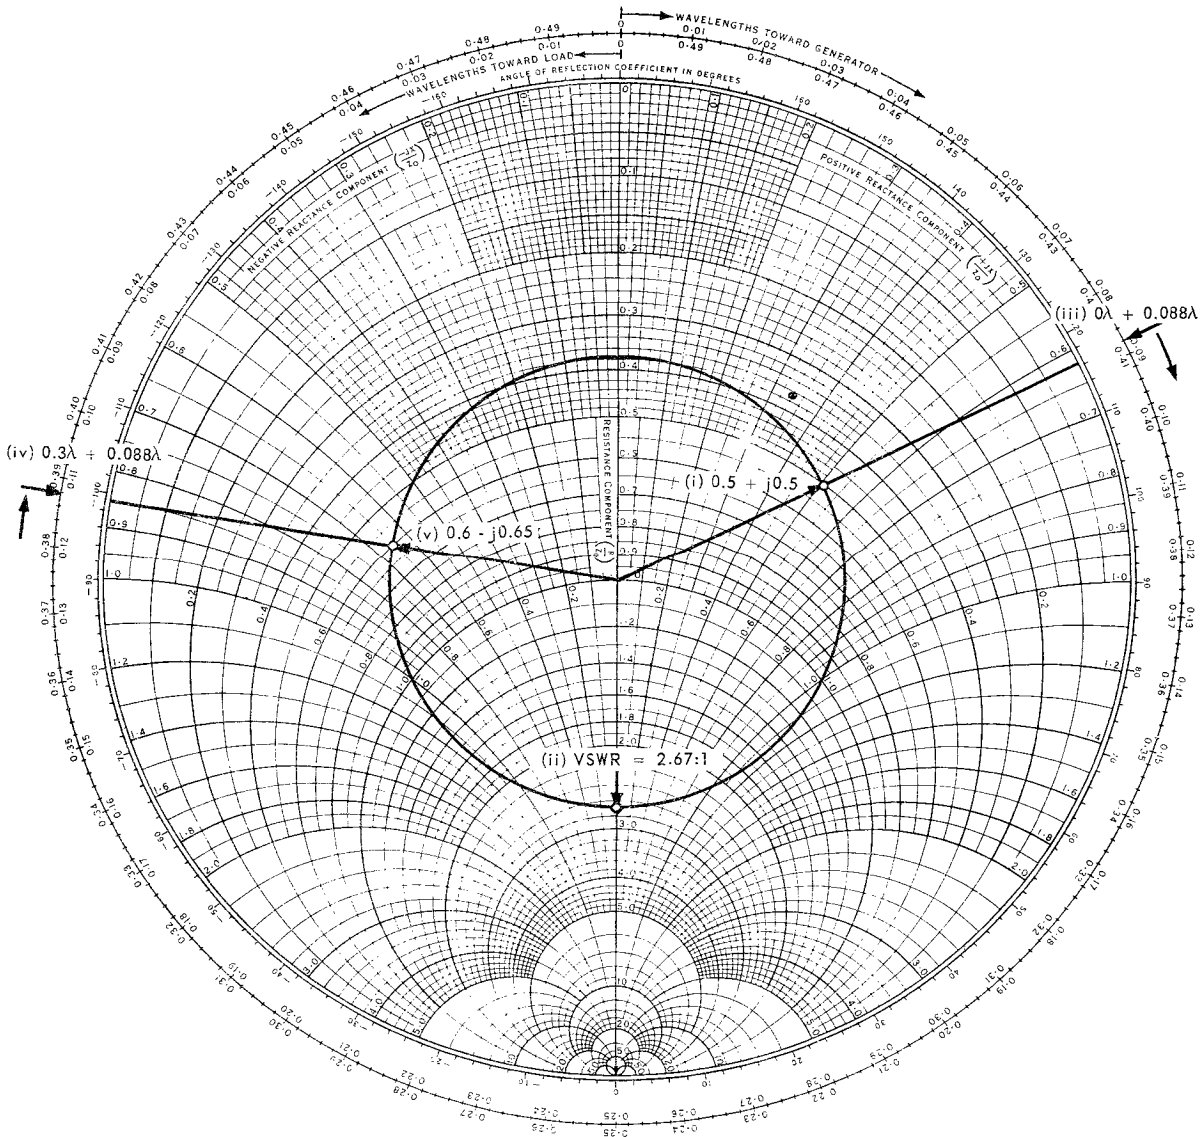

FIG. 11. DETERMINING  $Z_{in}$  OF LINES TERMINATED IN COMPLEX IMPEDANCE.
5.7 Line Terminated in Complex Impedance. Fig. 11 applies to a 50 ohm transmission line terminated in a complex impedance of  $25 + j25$  ohms. The SWR circle indicates that this line has a VSWR of 2.67 : 1. For a length of  $0.3\lambda$ , the normalized  $Z_{in}$  is  $0.6 - j0.65$  and the actual  $Z_{in}$  is  $30 - j32.5$  ohms.
1. Use the method shown in Fig. 11 (refer para. 5.3) to determine the  $Z_{in}$  (in the form  $R \pm jX$ ) and VSWR of each of the following lines terminated in a complex impedance ( $Z_T$ ).
For purely inductive loads or for lines terminated in a complex impedance which is predominantly inductive, the reflected voltage lags the incident voltage by an angle between  $0^\circ$  and  $180^\circ$ . For example, in Fig. 8, this angle of lag is about  $136.7^\circ$ ; in Fig. 11, it is about  $116.5^\circ$ .